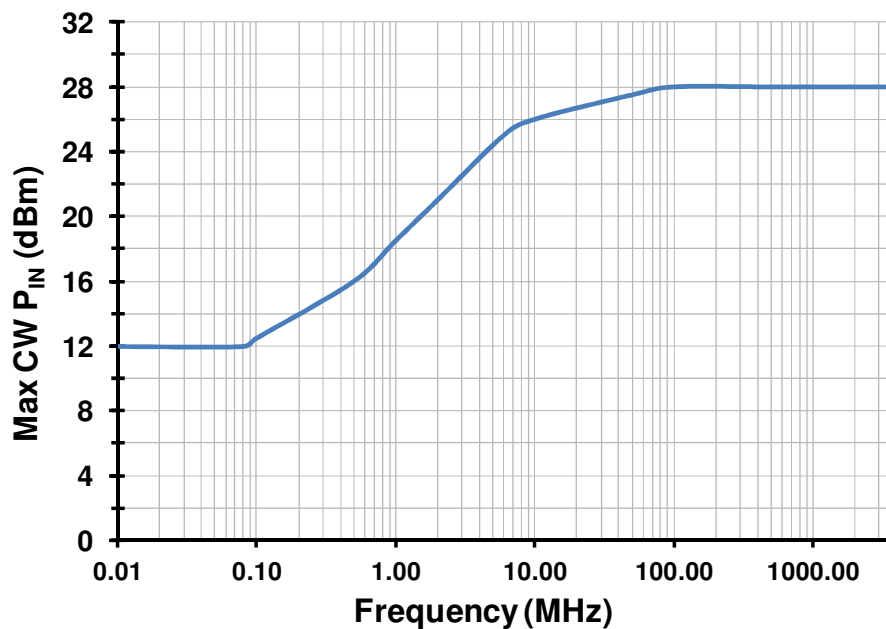
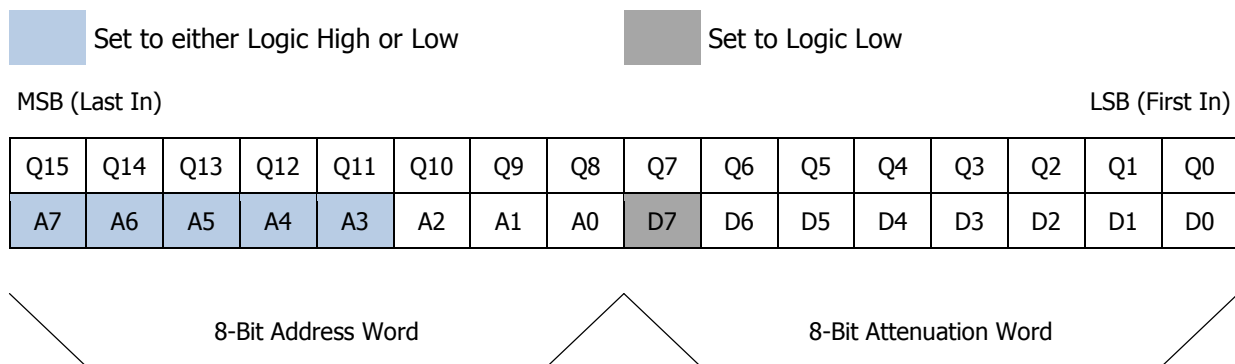

Figure 1 - Maximum Continuous Operating RF input power versus Input Frequency
Figure 2 - Two 8-bit words are comprised of 16-bit serial in, parallel out shift register
- Note 3: The input 0.1dB compression point is used as a linearity figure of merit. The recommended maximum input power is specified as the lesser of the two values from Figure 1 and Figure 2 above.
Note 3: The input 0.1dB compression point is used as a linearity figure of merit. The recommended maximum input power is specified as the lesser of the two values from Figure 1 and Figure 2 above.